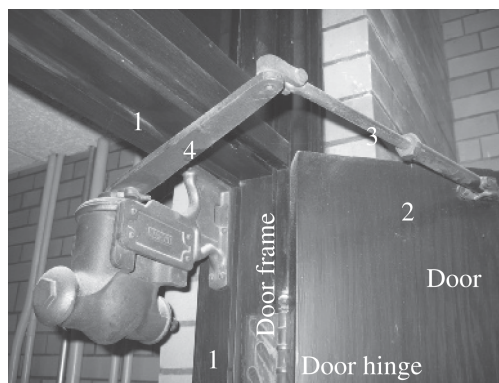

Figure 2: Task 2.2
2. Draw a kinematic scheme of the mechanism (fig. 2).